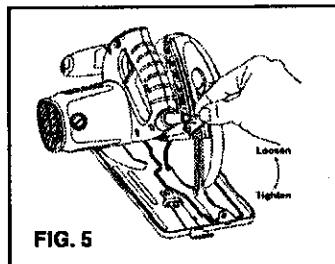

FIG. 5
1. Loosen the depth locking lever as shown in Fig. 5.